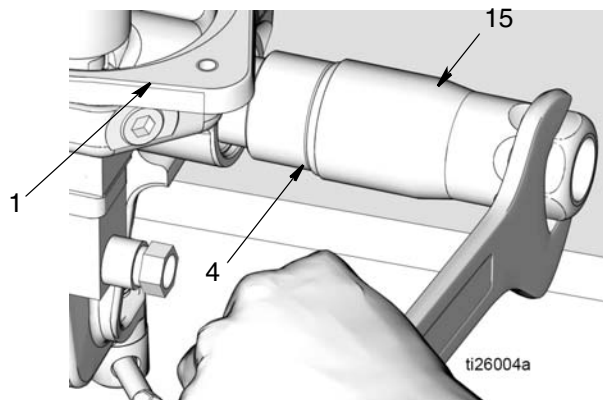

FIG. 25
- e. Discard o-rings (7, 41) and nut (5) according to all regulations for proper disposal
17. Remove the outlet check valve (15) from the pump base (1) (FIG. 25). Remove o-ring (4) from outlet check valve. Dispose of o-ring according to all regulations for proper disposal.